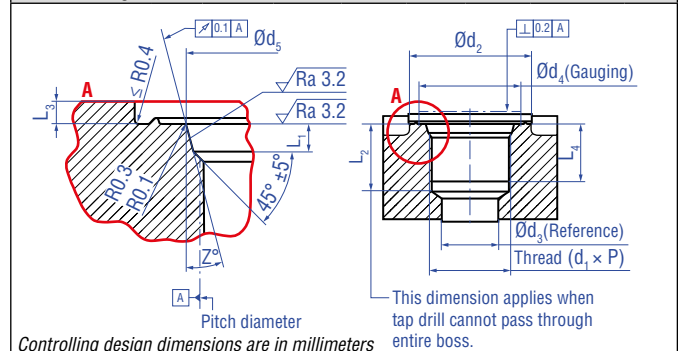

Fig. 17: Notice for metric threaded flange M18×1.5-6g based on DIN ISO 6149-1
3. A sealing by using O-ring 15.3 × 2.2 mm (0.6 × 0.09 in.) (part no. 401133) in the undercut. In this case a screw hole based on ISO 6149-1 (Fig. 17) must be provided. See ISO 6149-1 for further information.